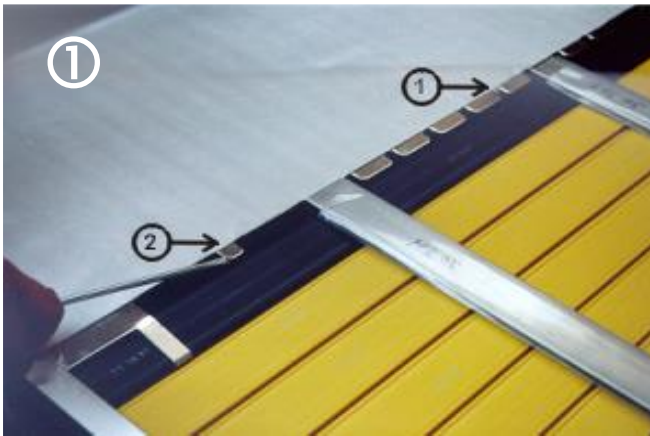

Figure 17 - Maintenance / Contact replacement I
- Lift up PVC profile (4) and pull out damaged contact strip (11) with the cable from the tube (10).
- Introduce new contact strip in the PVC tube and place the contact system correctly. Unsolder the two (or three) tape switches (Figure 17 / page 13).
- Place cap (2).
- Redress hook ① and hook ② only by old touchpads.